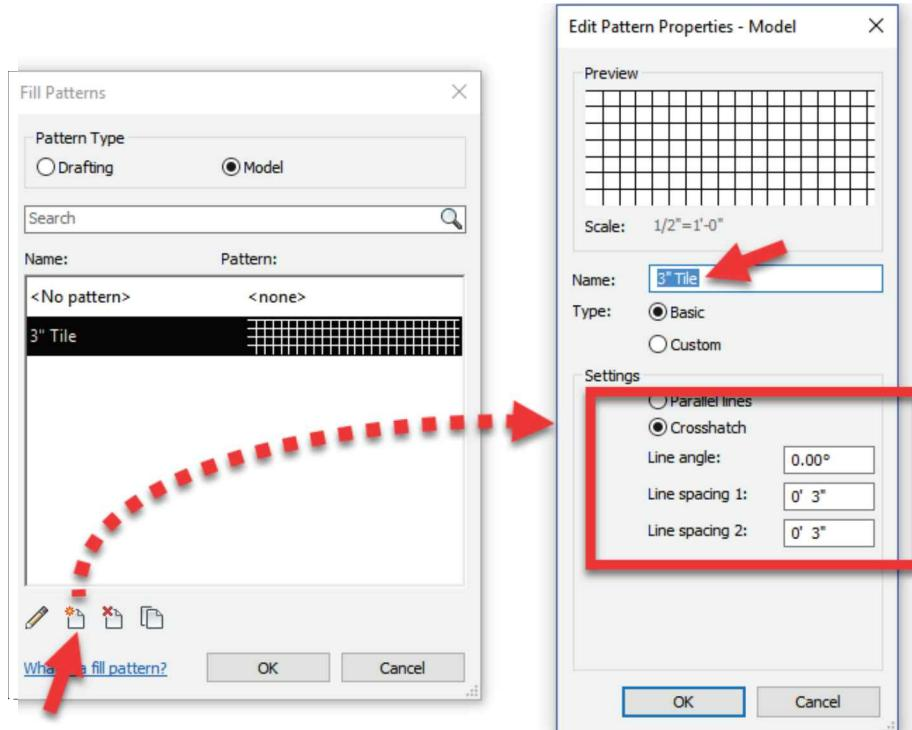

FIGURE 17-4.10 Creating a new model based surface pattern
20. Select **Model** for *Pattern Type* and then follow the steps shown in Figure 17-4.10 to create a new “Model” based *Fill Pattern* named **3" Tile**.